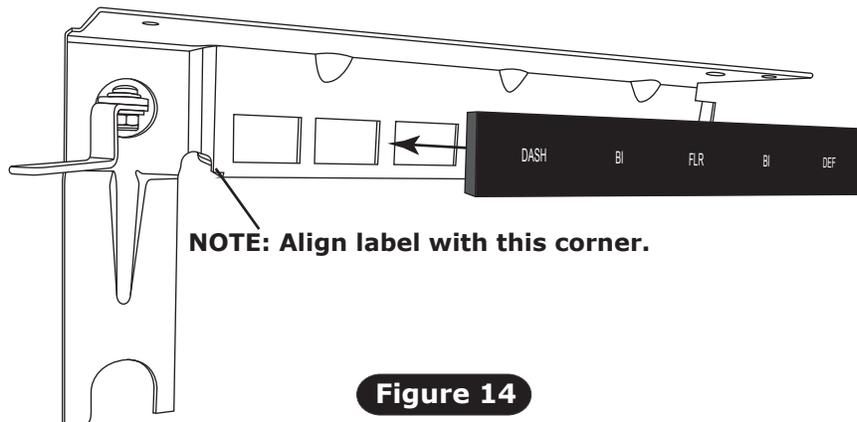

Figure 14
2. Install label assembly onto control panel as shown in Figure 14, below.